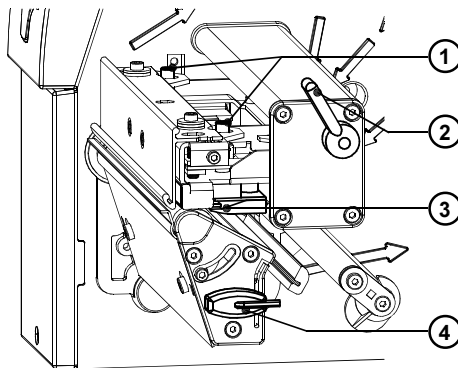

Fig. E-4 Changing Printhead A6 (I)
2. Swing the lever (2) to the position shown in figure E-4. In this position, the printhead assembly is unlocked but still lying on the print roller.
3. Loosen the printhead locking screws (1) using the Allen key (4).
4. To lift the printhead assembly, swing the lever (2) clockwise until it stops.
5. Remove the printhead (3) from the pins (8) on the printhead carriage.
6. Carefully unplug the printhead (4) from the connectors of the printhead cables (6 and 7).
8. Place the printhead into the assembly and insert the holes (5) onto the pins (8).
9. Tighten the locking screws (1) by hand. Check that the printhead is completely secured in the printhead carriage.
10. Swing the lever (2) again into the position shown in figure E-4.
11. Tighten the locking screws (1) completely. Do not over-tighten the locking screws (1).